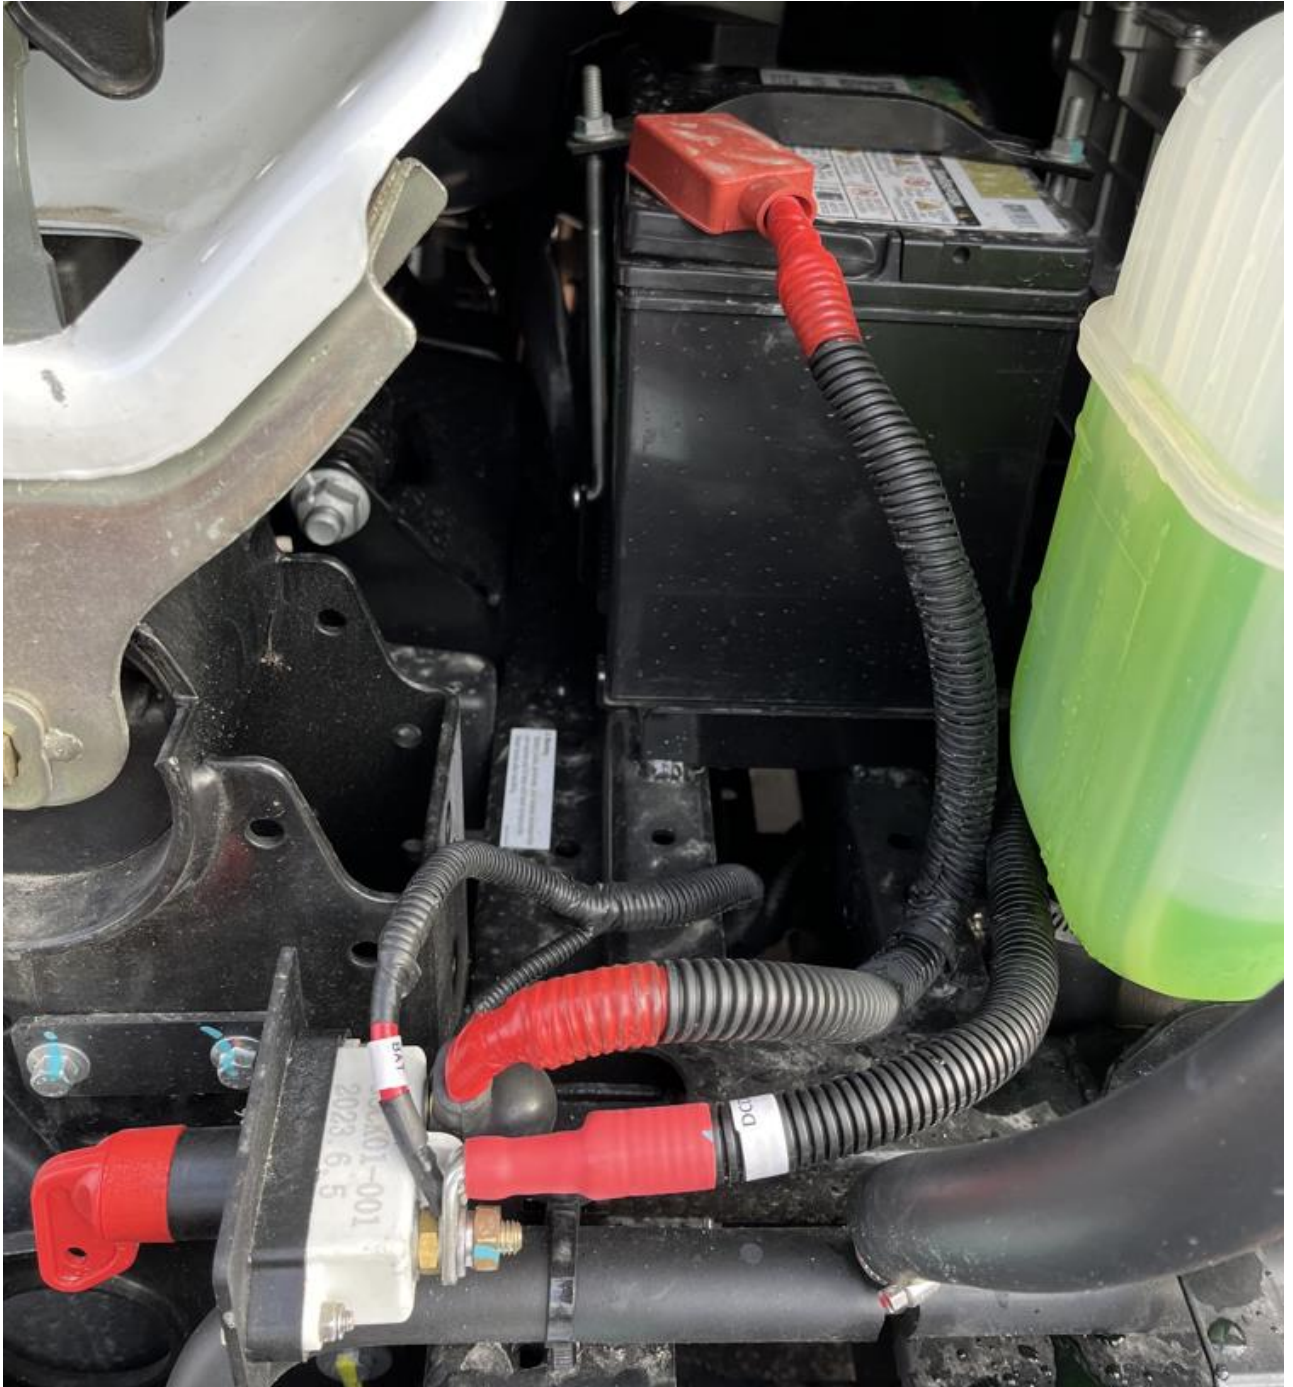
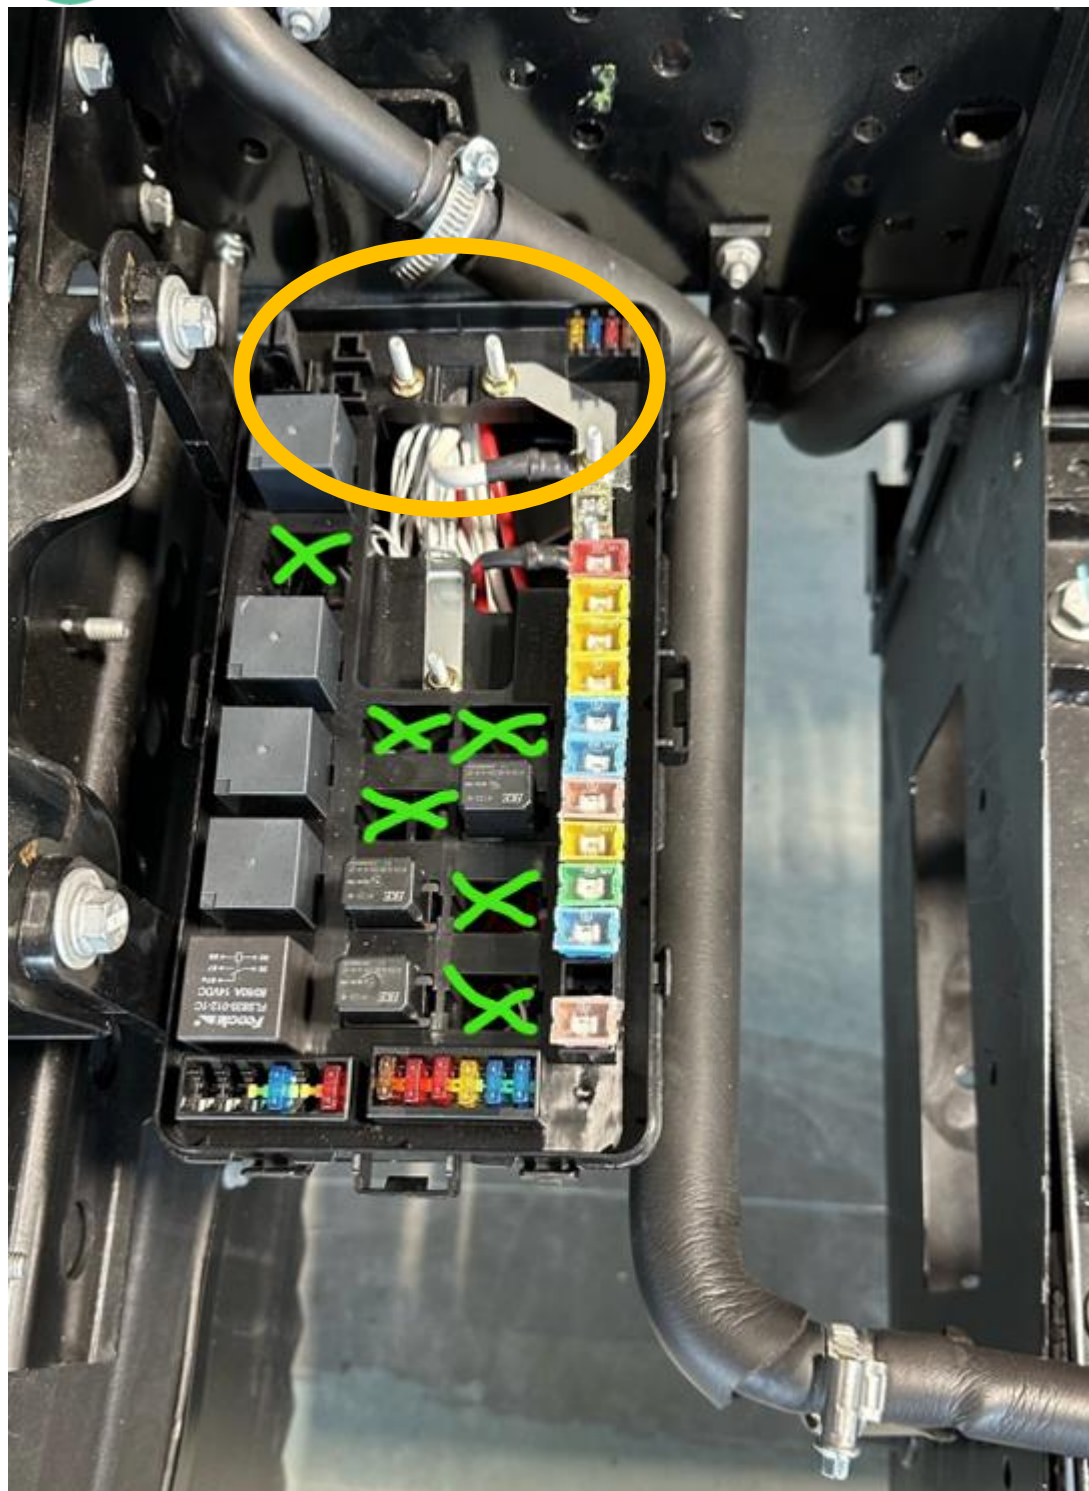

Figure 2 OEM Chassis `Master Switch' located just aft of Cab.
Figure 3 OEM Chassis Fuse Center located aft of Cab.
- 1) Locate 12v Chassis source; Start Battery (Lead Acid) under Cab (Figure 1), Master Switch (Figure 2) or Chassis fuse center box on chassis (Figure 3).